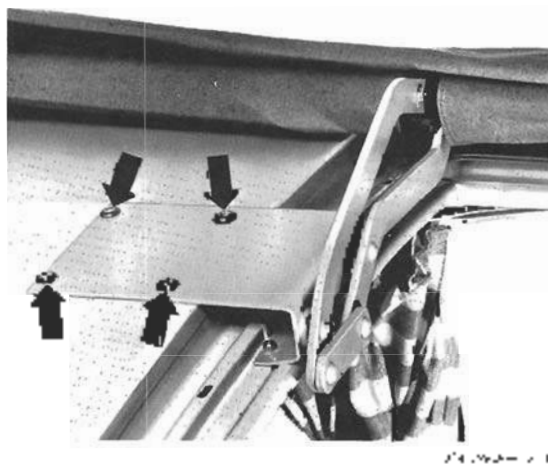

Fig. 7-41. Phillips head screws that hold the folding cot front hinge to the vehicle roof.
2. Remove the four Phillips head screws that hold the front folding cot hinge to the vehicle roof (Fig. 7-41).